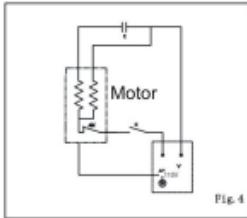

Fig. 5
3.2.1 Application sketch see Fig.5